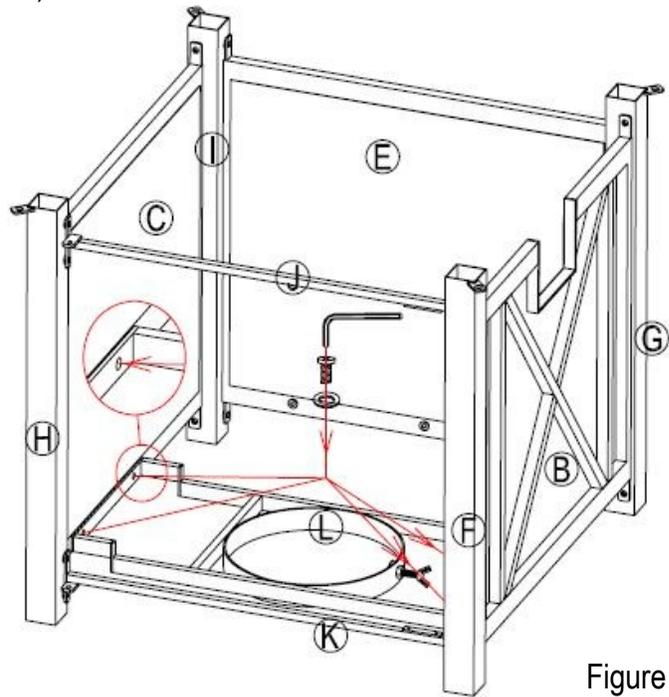

Figure 5
5. Attach the Gas Cylinder Support (L) to the Right Panel (B) and the Left Panel (C) with Bolt (AA) and Washer (BB) by using the Hex Screw Driver (CC), (see Figure 5).